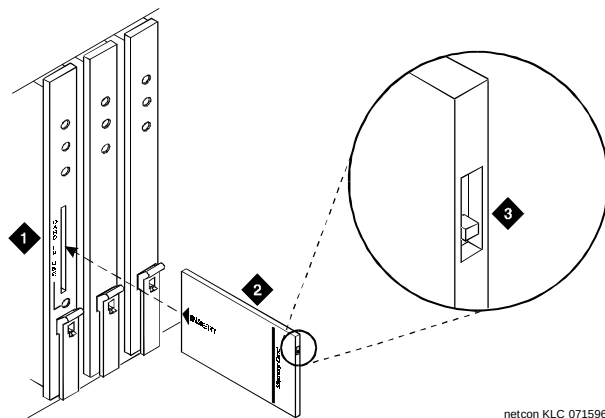

Figure 4-1. Record Switch on DEFINITY Memory Card
6. Verify the switch on the outside edge of the memory card is in the down position to record (see Figure 4-1).
7. See NOTE. Insert the original translation memory card into the slot on the TN777B faceplate. (See Figure 4-1.)